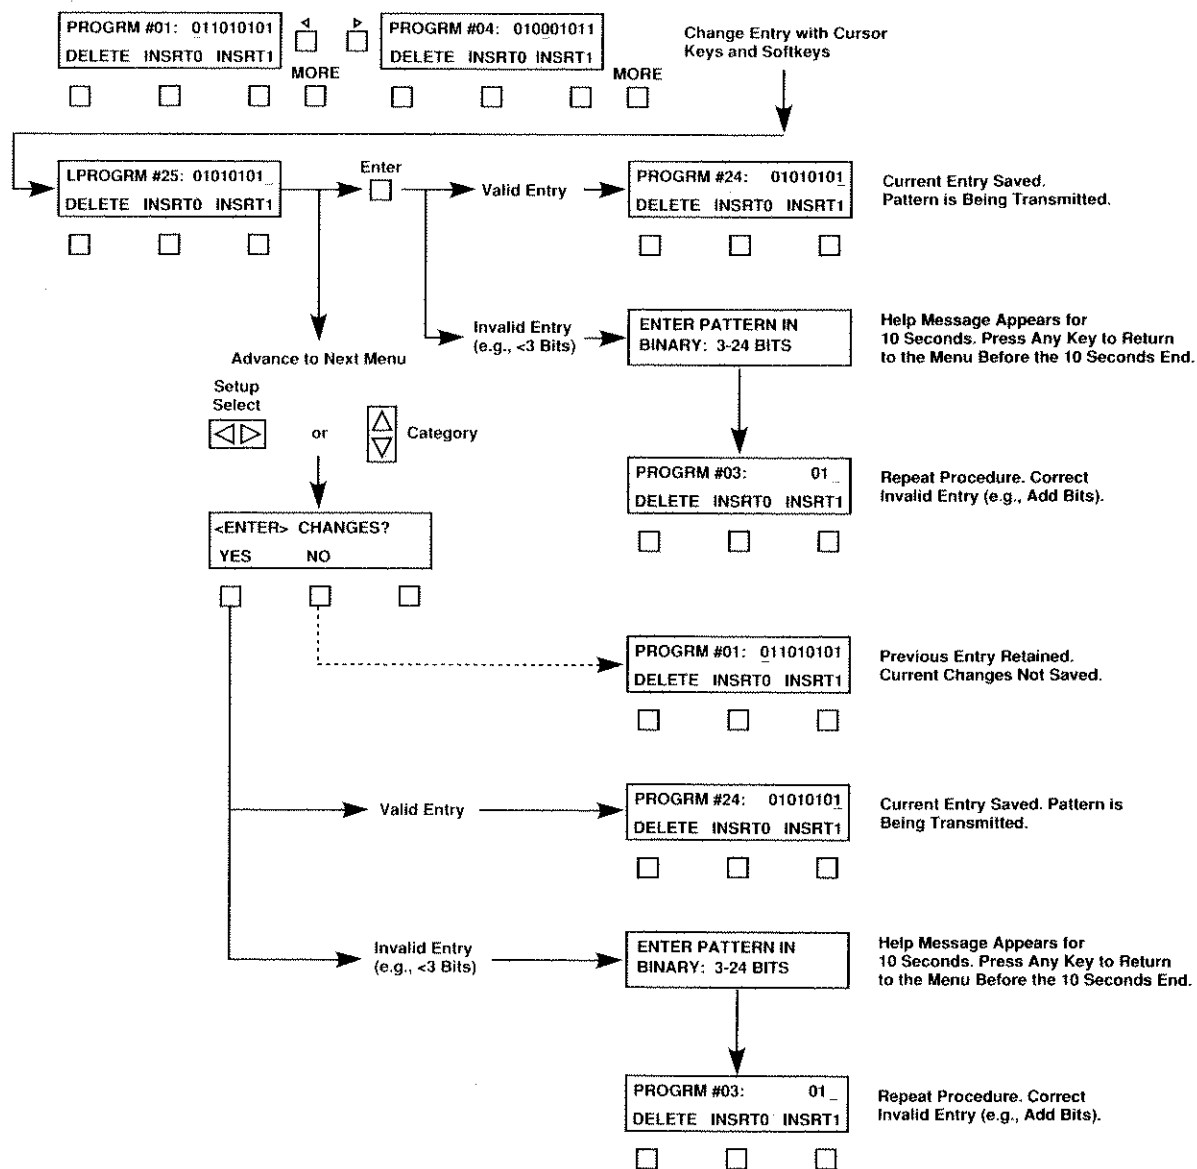
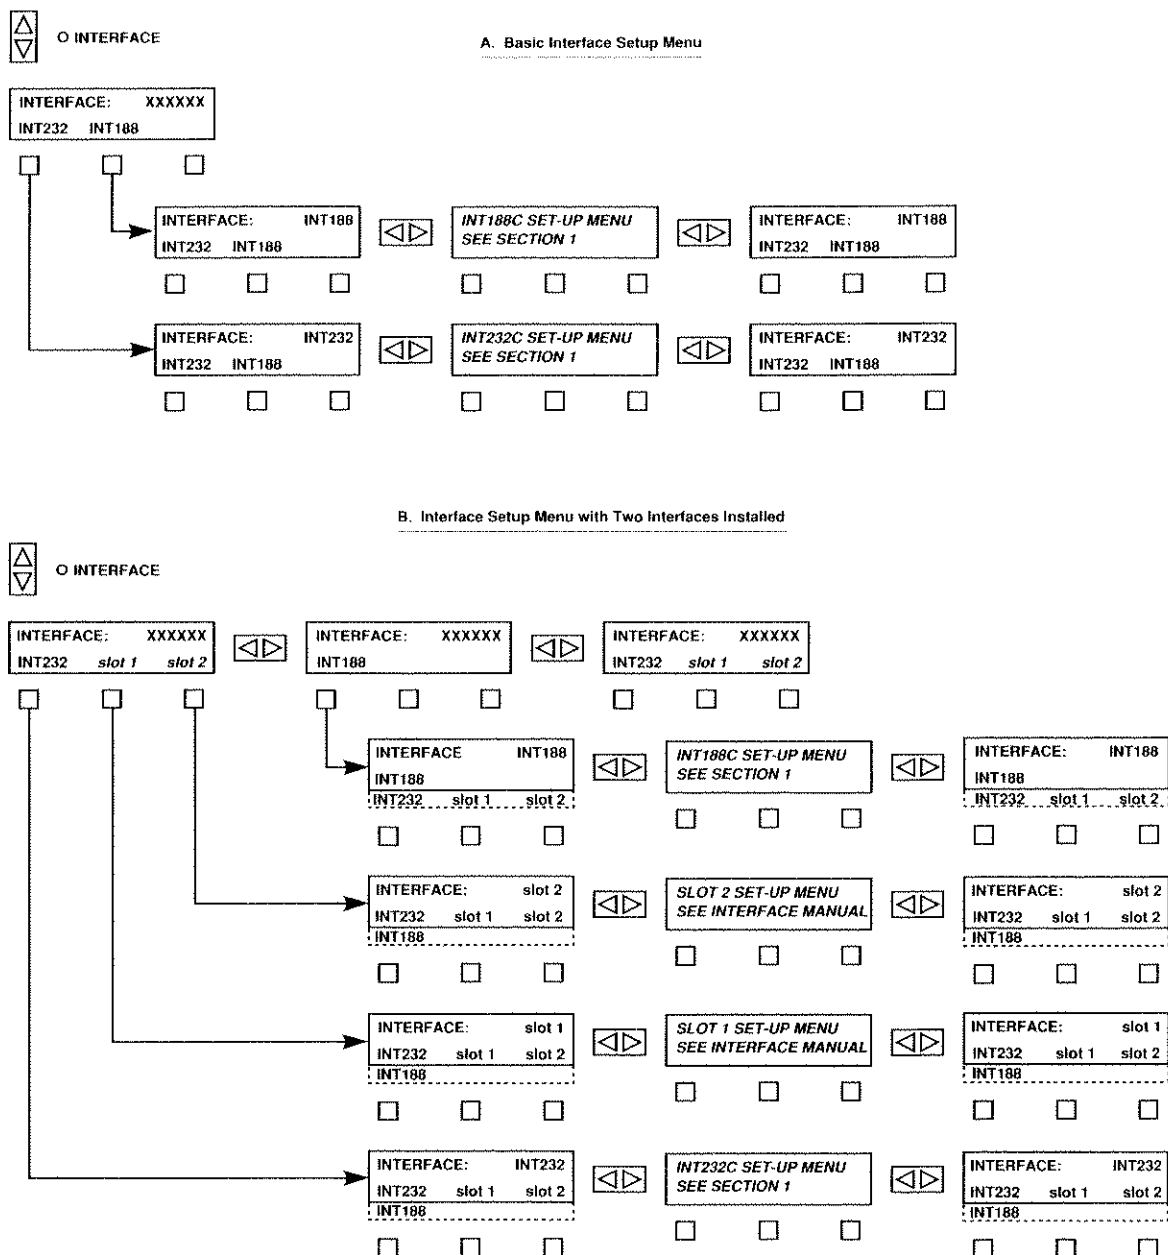

Figure 2-10
Figure 2-11
Figure 2-10 illustrates two ways of saving a keyed-in entry using the ENTER key, SETUP SELECT, or SETUP CATEGORY switch. Once the changes have been set as desired, pressing the ENTER key saves the new entry. If the entered value is not within the valid limits of the menu (check the HELP message), pressing the ENTER key displays the menu help message for about 10 seconds, then returns to the displayed menu without affecting the invalid entry. Pressing any key while the help message is displayed bypasses the message. Correct the invalid entry and press the ENTER key again. The alternative to pressing the ENTER key is using the SETUP SELECT or SETUP CATEGORY switch.
To select an interface, select the INTERFACE category with the SETUP CATEGORY switch (INTERFACE LED illuminates), then press the corresponding softkey, as shown in Figure 2-10. The selected interface label appears on the top line of the display. Press the SETUP SELECT switch to determine where to configure the interface: interface panel switches or INTERFACE menu. If the INTERFACE menu does not change, configure the interface using the interface panel switches. However, if the INTERFACE menu does change to a new display, then the interface can be configured from the front panel. Figure 2-11(A) shows the INTERFACE menus available when only the internal RS-232-C/V.24 and MIL-STD-188C Interfaces (labeled INT232 and INT188) are available. Figure 2-11(B) shows the INTERFACE menu when two optional interfaces are installed. Figure 2-11(B) also shows how an installed interface is treated without a set-up menu.
The INT232 and INT188 Interfaces are always available from the INTERFACE menu. The INT232 Interface is listed first and the INT188 Interface is always listed last in the list of interfaces (see Figure 2-11). When an interface module is installed in SLOT 1, the interface label is added to the menu selections (softkey labels) and the INT188 label moves to the right of the list. When a second interface module is installed in the optional interface slot, SLOT 2, the MORE key illuminates indicating that more than three interfaces are available (see Figure 2-11). The interface listed after INT232 in the INTERFACE menu is installed in the standard interface slot, SLOT 1. The third interface listed is the interface installed in the optional interface slot (SLOT 2) or the INT188 Interface, if no interface is installed in SLOT 2.
1. Press the INTRNL softkey and SETUP SELECT switch to access the INTERNAL FREQ menu (see Figure 2-11).